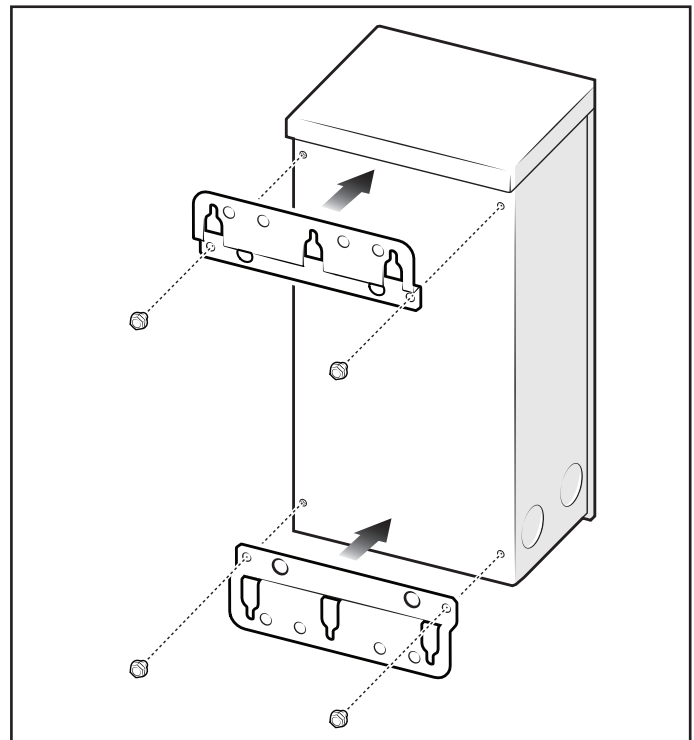

Figure 2. Install Brackets
2. Rotate and secure upper and lower brackets with mounting screws to the same mounting holes, see Figure 2.